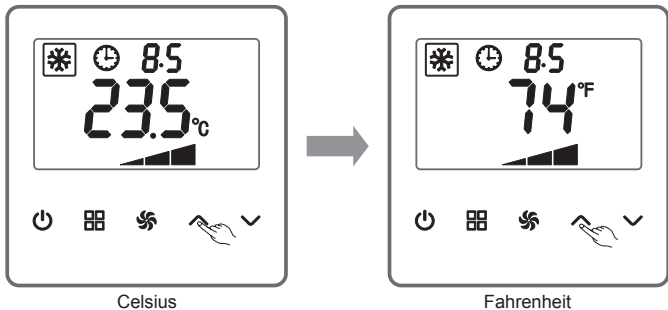

Figure 3
(3) When the temperature unit is Fahrenheit, one press of the UP key or the DOWN key causes a 1°F increase or decrease within $61^{\circ}\text{F}\sim 86^{\circ}\text{F}$.
(4) When keeping pressing the UP key or the DOWN key, the temperature varies every 0.5 second.
(5) As shown in Figure 3, the indoor ambient temperature display, if activated, will appear by default after the unit is started. A desired temperature being set appears temporarily. Later, the default temperature will reappear without any operation in 5 seconds.